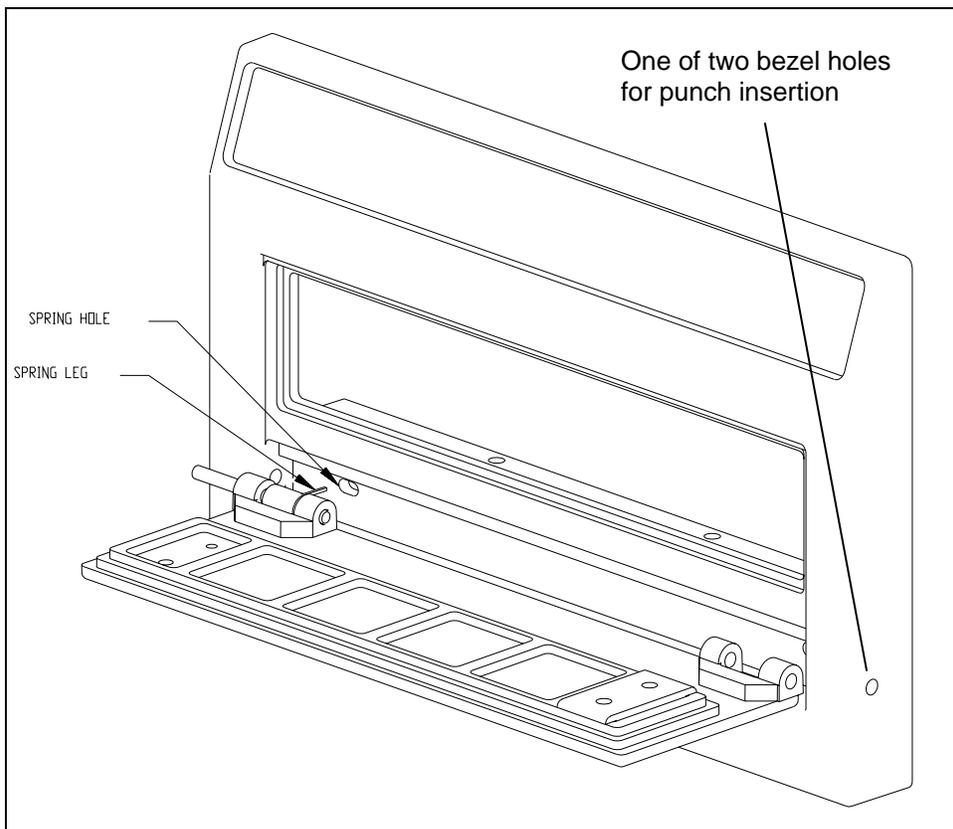

Figure 9-4 Bezel Holes for Hinge Pin Removal
- 1 Insert a long punch through the side of the bezel and push the pin through the door hinge (Figure 9-4).